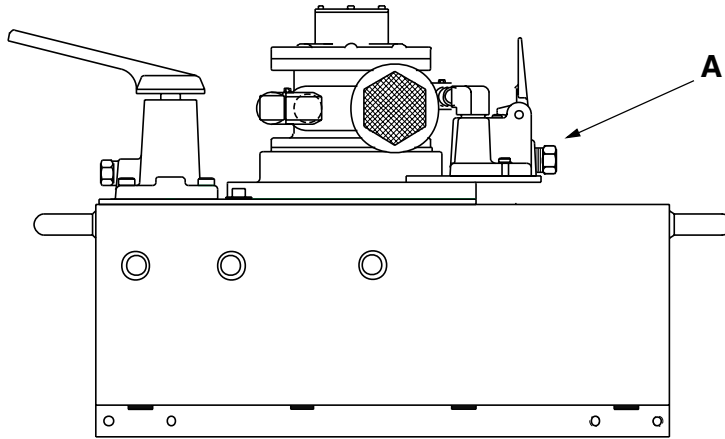

Figure 1
Pumps require 60-100 psi air pressure at 40 ft.³/min. An RFL-102 Regulator-Filter-Lubricator should be installed upstream from the pump to provide clean, lubricated air, and to allow for air pressure adjustment. Attach incoming air supply to the 3/8" NPT air port (A) on air valve. See Figure 1 below for air port location.